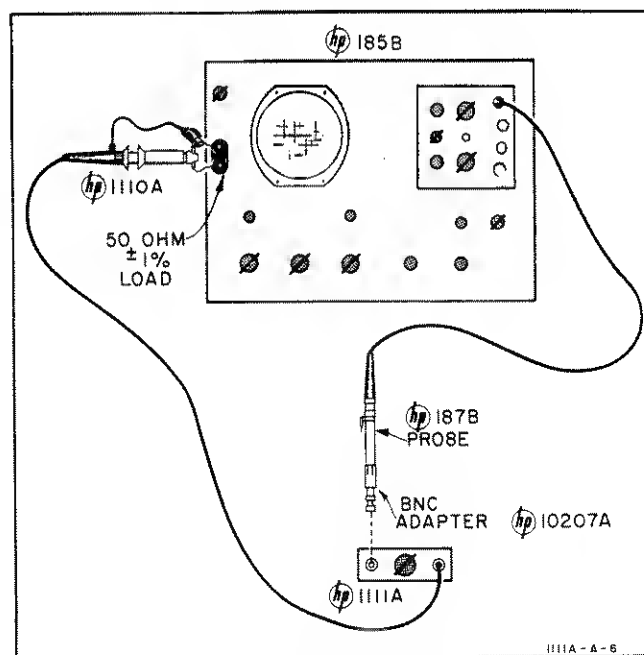

Figure 5-4. Rise Time Check Setup
a. Refer to Table 5-1 and Figure 5-4 and connect specified equipment, items 3, 6, and 9. The 50 Ω load is connected to the oscilloscope sync pulse output.